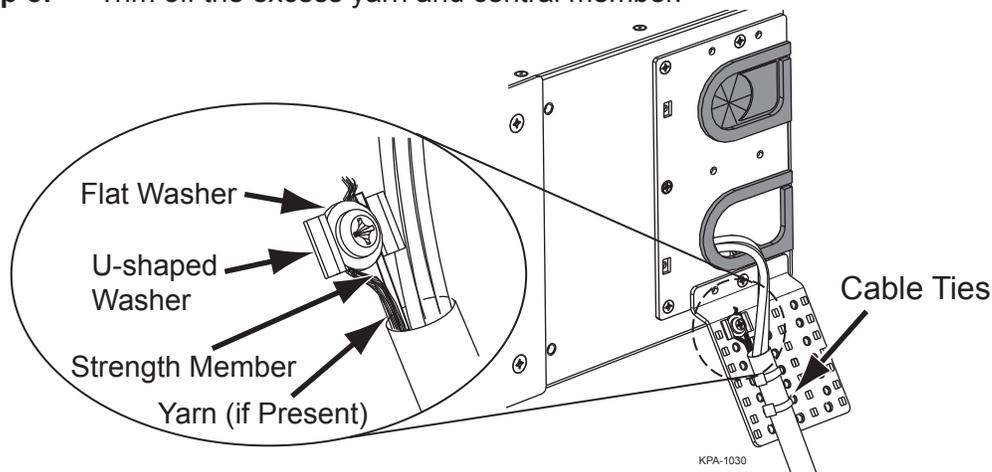

Figure 8
- Step 1:** Attach the cable tie to the strain-relief bracket in two places with cable ties as shown in Figure 8.
- Step 1:** Install the U-shaped washer and the flat washer on the strain-relief bracket in the orientation shown using the supplied Phillips-head machine screw (Figure 8).